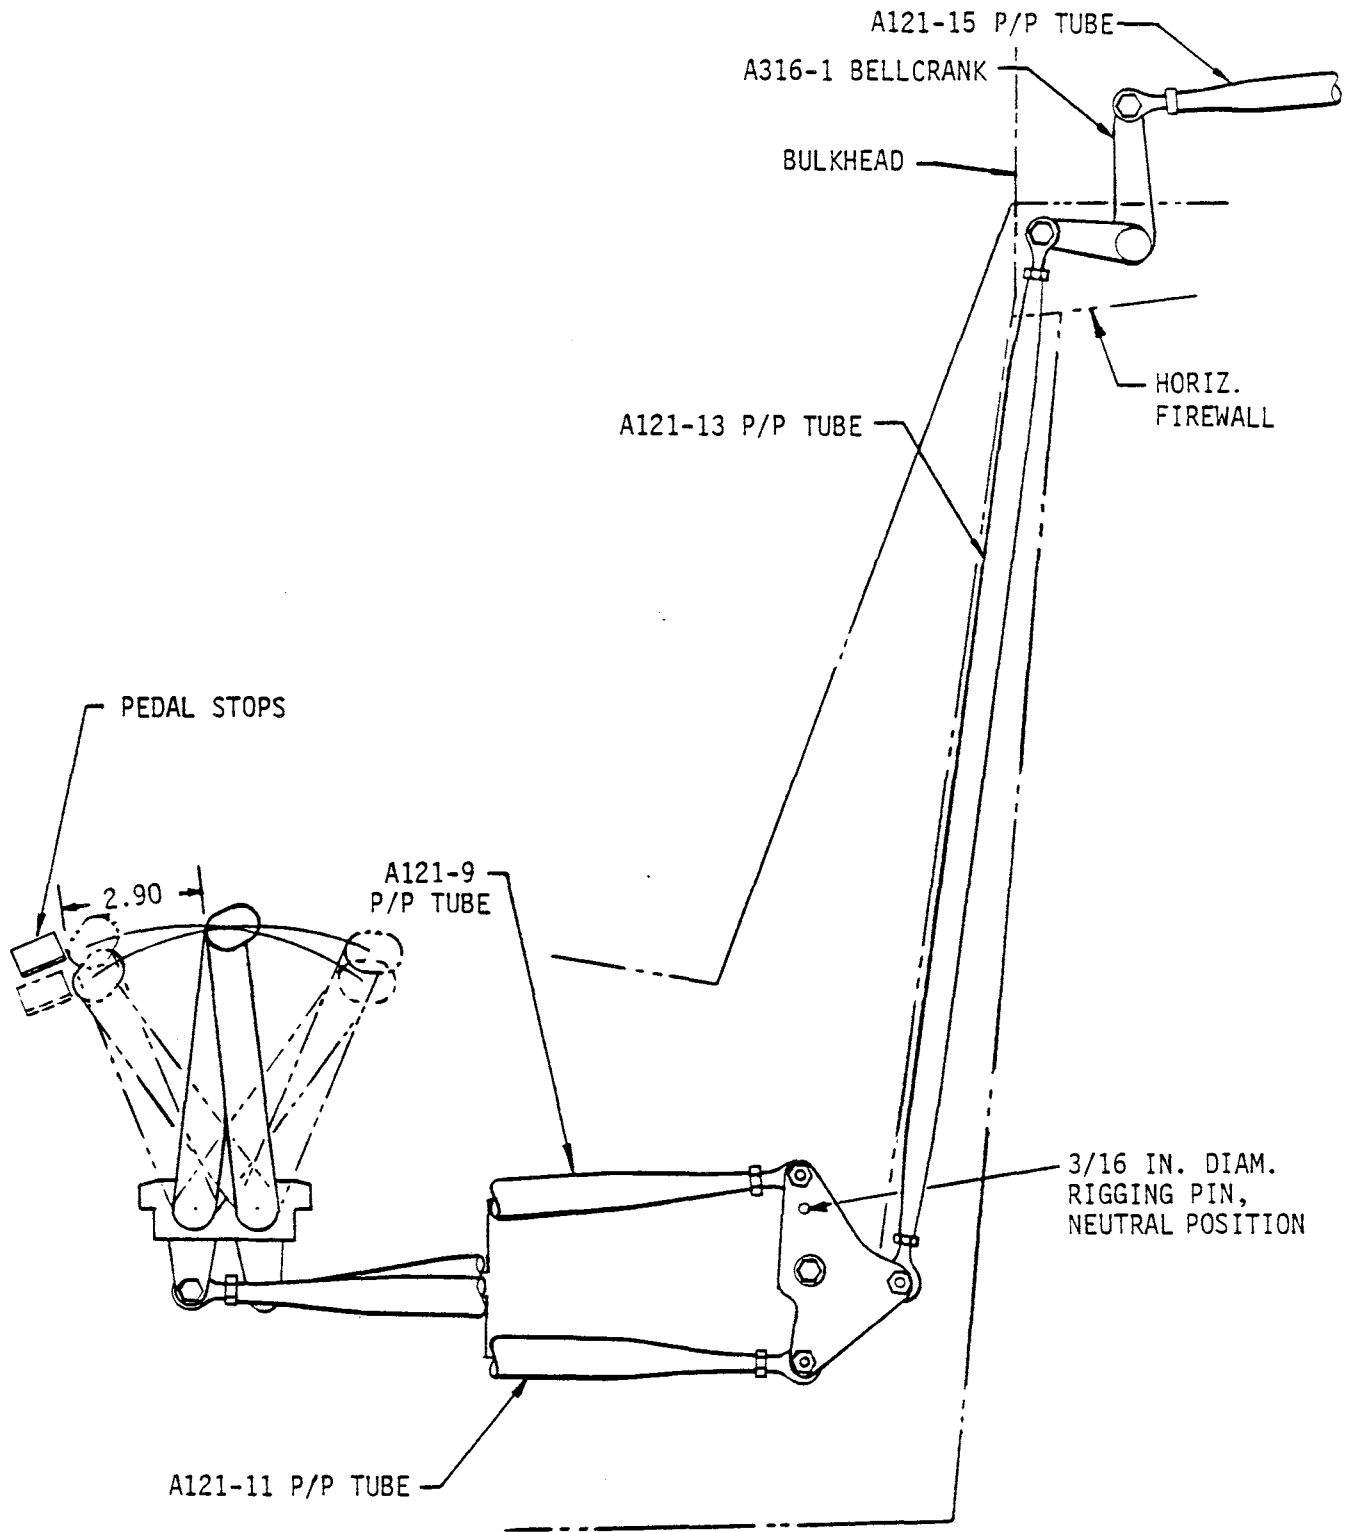

FIGURE 10-5 PEDAL CONTROL INSTALLATION
10.131 Pedals (See Figure 10-5)
10.132 A316 Bellcrank (See Figure 10-5)